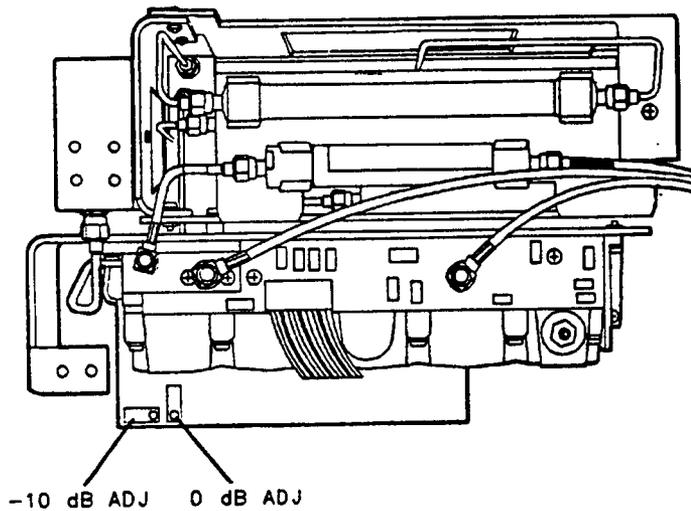

Figure 2-28. BITG Power Level Adjustment Locations
9. Adjust -10 dB ADJ (A3A15R13) for a 0 dBm ± 0.05 dB reading on the measuring receiver. Refer to Figure 2-28 for adjustment location.
11. With the SRC PWR level set to -10 dBm, adjust -10 dB ADJ (A3A15R13) for a -10 dBm ± 0.1 dB reading on the measuring receiver. Refer to Figure 2-28 for adjustment location.
12. Set the SRC PWR level to 0 dBm. Adjust 0 dB ADJ (A3A15R18) for a 0 dBm ± 0.2 dB reading on the measuring receiver. Refer to Figure 2-28 for adjustment location.